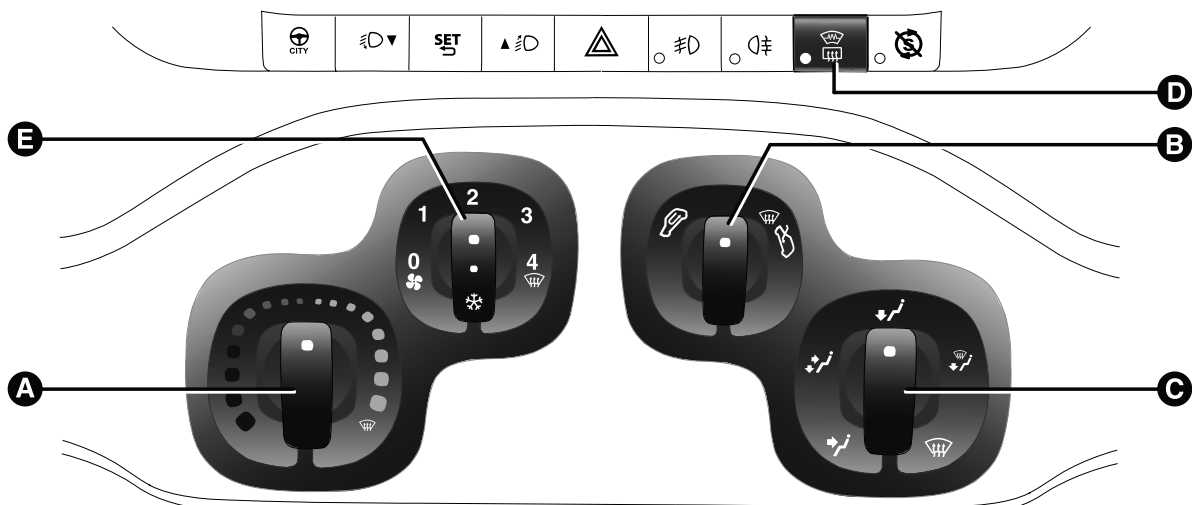

fig. 29
A Air temperature knob (red=hot/blue=cold)fig. 29
B Air recirculation knob fig. 29
C Air distribution knob fig. 29
D Heated rear window, folding mirror/heated windscreen (for versions/markets, where available) activation/deactivation button fig. 29.
E Fan speed and climate control system activation/deactivation knob fig. 29 (for versions/markets, where provided). Press the knob to activate the climate control system; the LED on the knob switches on. This enables rapid cooling of the passenger compartment. .
- ☐ turn knob A fig. 29 to the blue section;
- ☐ turn knob A fig. 29 to the right to increase the temperature;
- ☐ turn knob A fig. 29 to the red section;